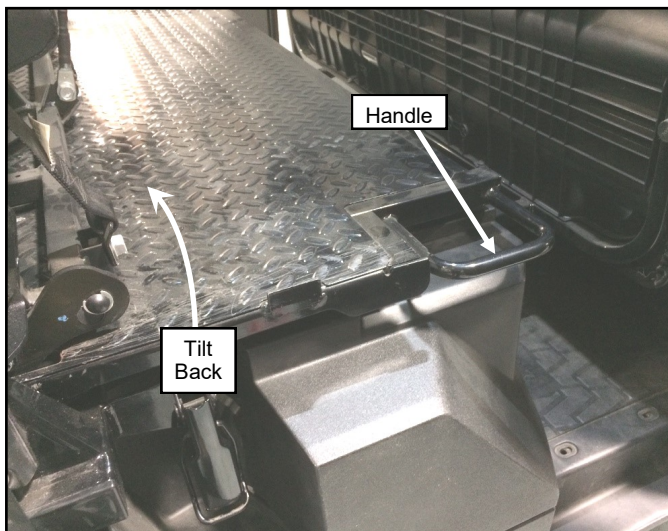

Fig. 2.2 (Tilt Bed, Pro-DXT)
- 2.2** Grab handles on the side of the bed and tilt the bed backwards per fig. 2.2.